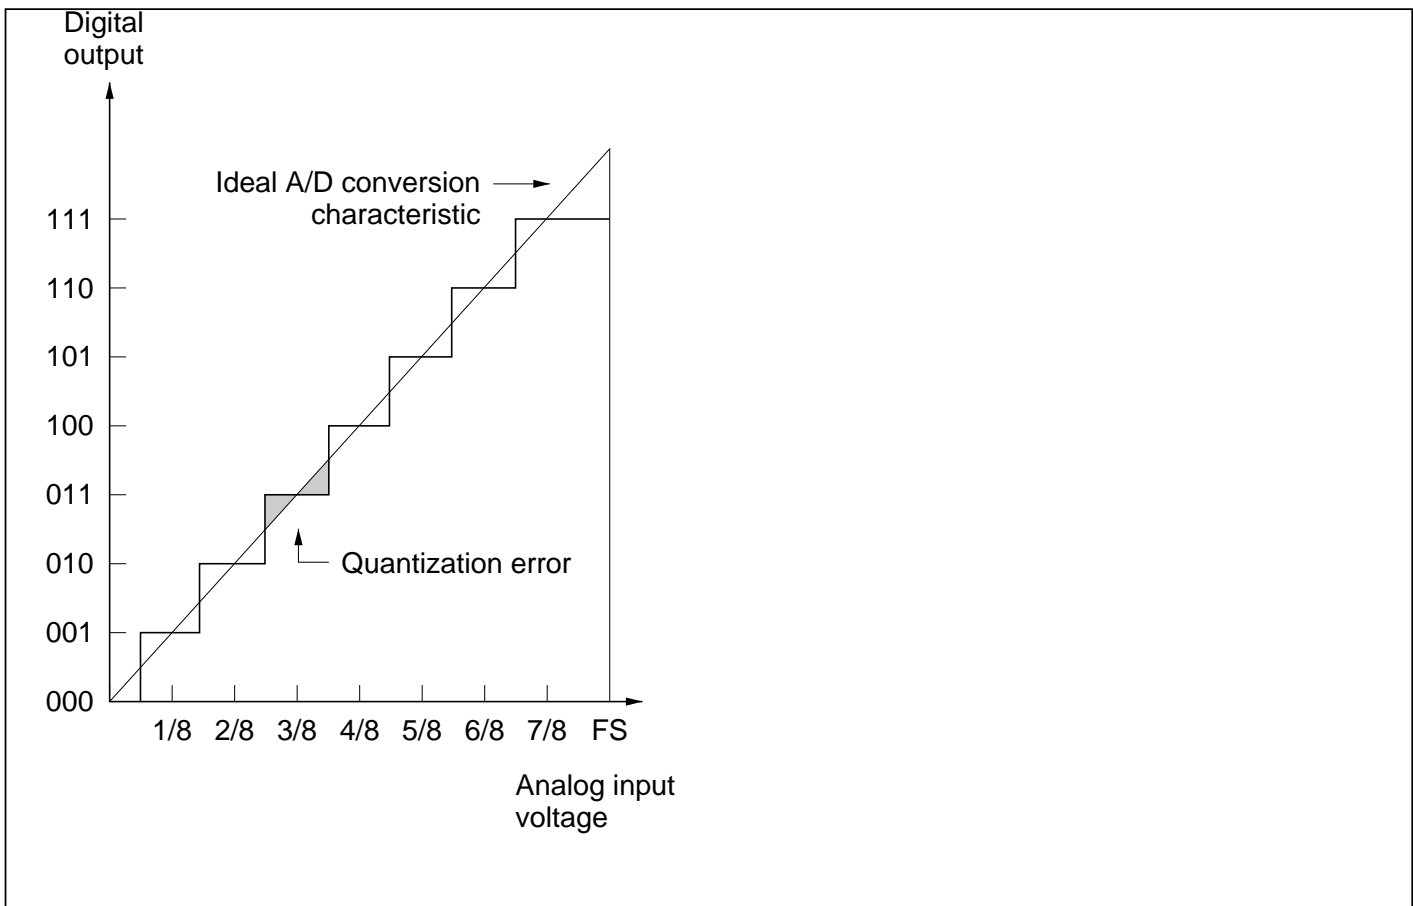

Figure 15-9 A/D Converter Accuracy Definitions (1)
- Quantization error:.....Intrinsic error of the A/D converter; 1/2 LSB (figure 15-9)